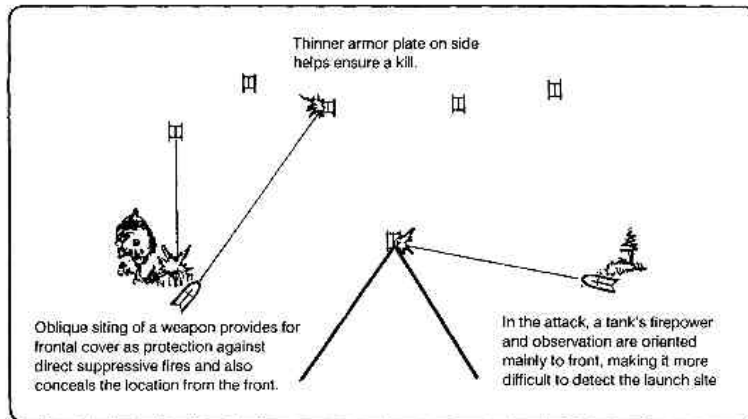

Figure 3-5. Engagement of the enemy with flank or rear shots.
(2) Engage the enemy with flank or rear shots from behind frontal cover whenever possible. (See Figure 3-5.) It is extremely difficult for the enemy to retrace the flight path of a round to its launch site and to reorient his weapons to the firing position when the round moves obliquely across his front, as opposed to being launched from a head-on position. When firing to the oblique, the gunner is protected from enemy fire to his front by constructing a parapet or using natural cover that adds to the enemy's problems in detecting the launch signature. Gunners must never be positioned where they must engage a frontal target.